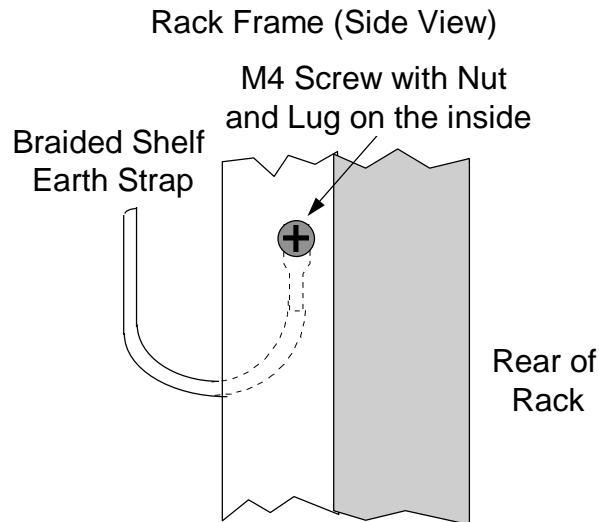

Figure 1-4. Shelf Earth Connection
- c) Remove the DC cable plug to the DC input socket PL6 and remove the crimped cable screen earth to the lug positioned alongside PL6. See Figure 1-4.
- f) Remove the braided earth strap to the frame using a M4 screw and M4 nut as shown in Figure 1-4.
- b) Connect the braided earth strap to the frame using a M4 screw and M4 nut as shown in Figure 1-4.
6. Connect DC cable plug to the DC input socket PL6 and connect the crimped cable screen earth to the lug positioned alongside PL6. See Figure 1-4. The shelf power cycles and sets itself into service.